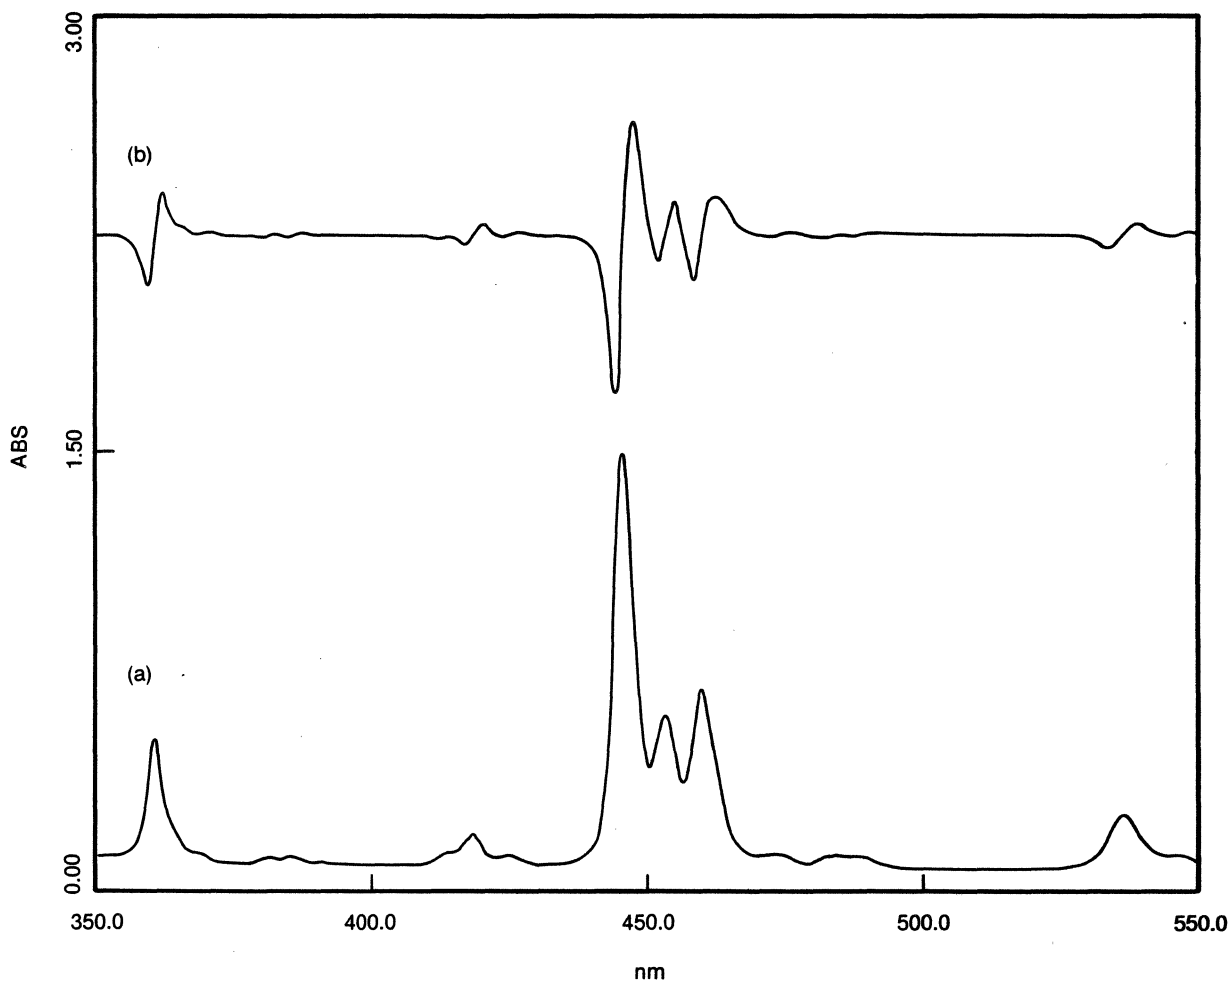
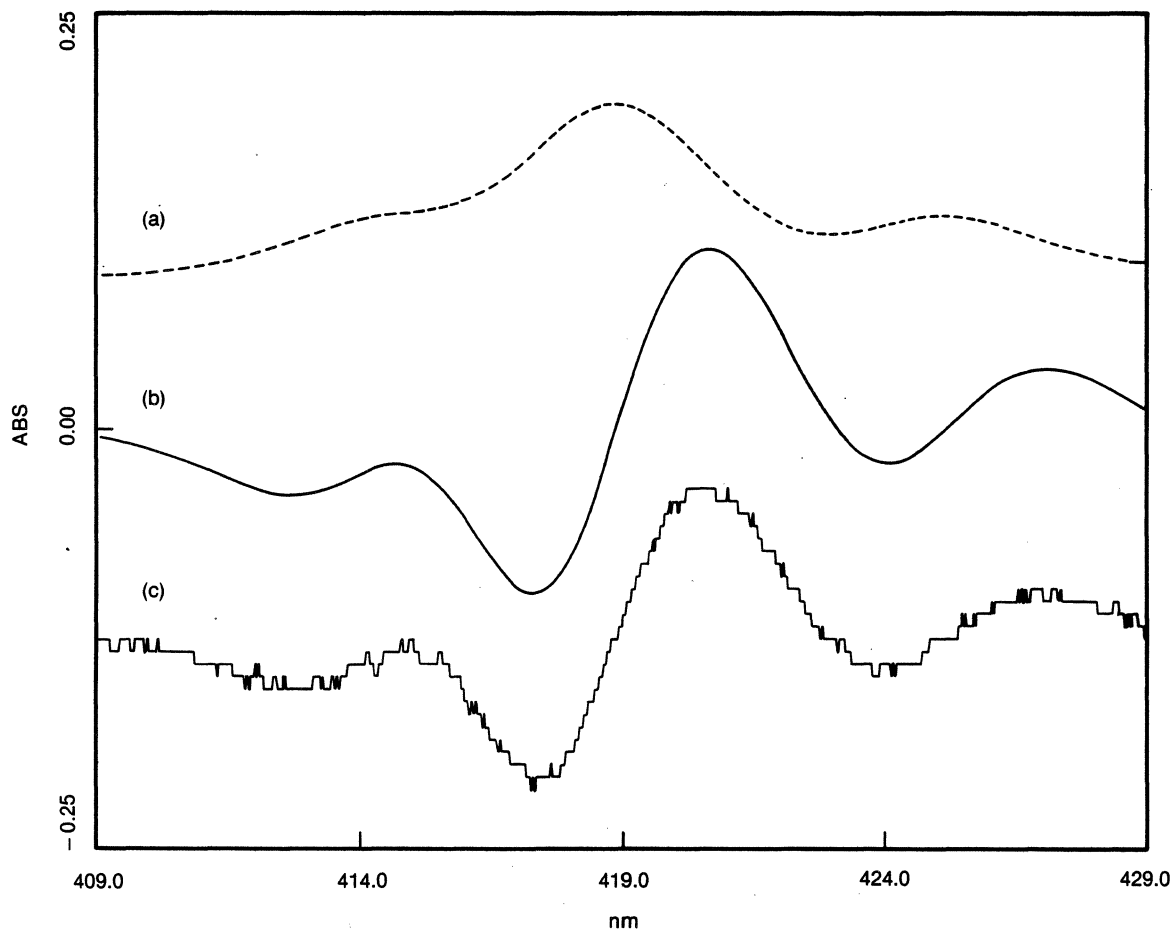
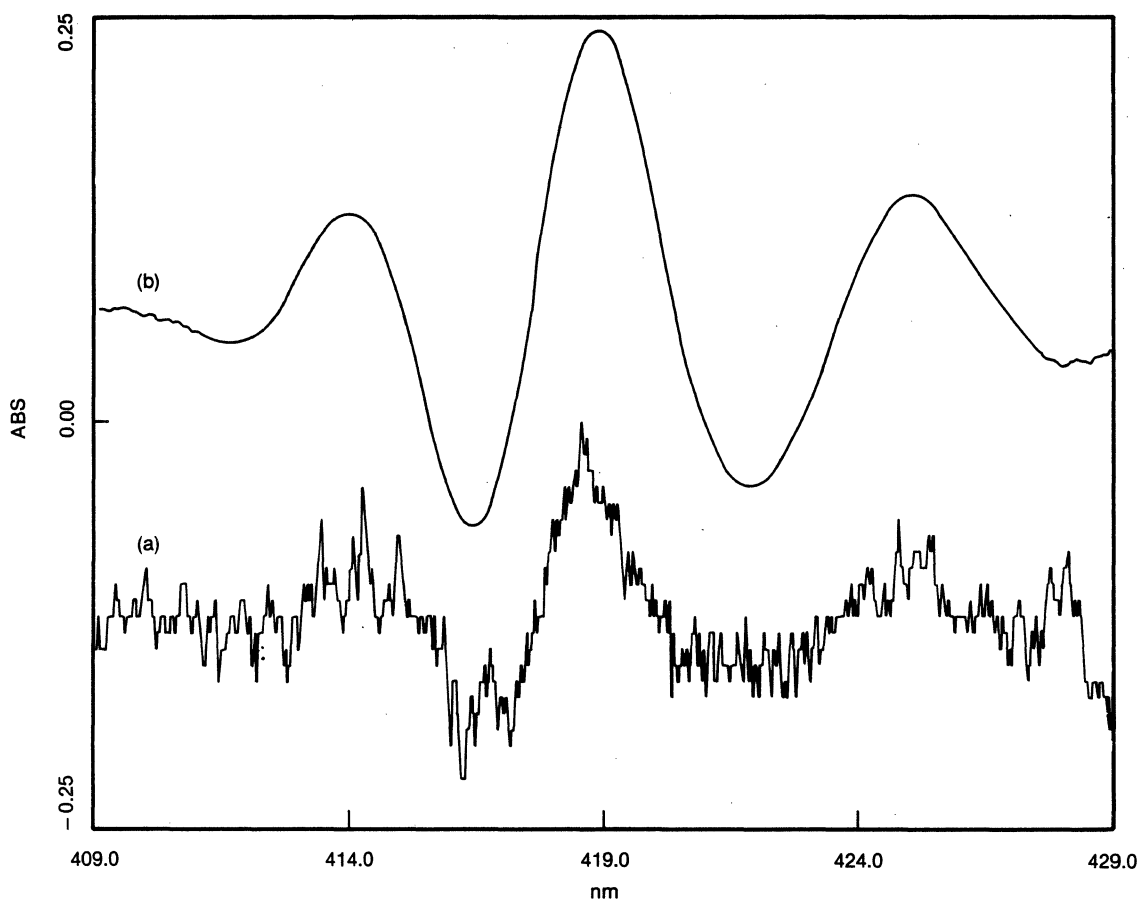

Figure 9-9. First Derivative of Holmium Oxide Spectrum
Figure 9-10. Effect of M Value on Differentiation
Figure 9-11. Fourth Derivative of Holmium Oxide Spectrum
1. Figure 9-9(a) shows an absorbance spectrum of holmium oxide glass, from 550 nm to 350 nm. The data was collected using a λ Scale value of 10, giving a data density of one point every 0.2 nm. (See Table 9-2.)
Figure 9-9(b) shows the first derivative of this spectrum, calculated with an M value of 2. The effective window size, in nanometers, is a function of both M and the Scan Increment, as shown in equation (9-2).
2. Figure 9-10(a) shows the absorbance spectrum of holmium oxide glass. Data was collected from 429 nm to 409 nm, using a λ Scale value of 1. The scan increment is one point every 0.02 nm, which is ten times greater than the density used in Figure 9-9.
To obtain the same effective window size as in Figure 9-9, an M value ten times larger was needed. Figure 9-10(b) shows the first derivative obtained with M=20, for an effective window size of 0.8 nm. The signal-to-noise ratio is comparable to that shown in Figure 9-9(b). Note that the derivative data was multiplied by 10 before plotting.
Figure 9-10(c) illustrates the effect of using an M value that is too small. An M value of 2 was used, giving an effective window size of 0.08 nm. Clearly, the signal-to-noise ratio is much worse with the smaller window. In addition, the intensity of the derivative was decreased. Note that a scaling factor of 75 was needed for the derivative data.
3. The optimum value of M also varies with the order of the derivative being calculated. The fourth derivative of the data shown in Figure 9-10(a) was calculated using an M value of 20. The result is shown in Figure 9-11(a). While M=20 gave an excellent signal-to-noise ratio for the first derivative, a larger value is needed for the fourth derivative. Figure 9-11(b) shows the result obtained for M=50. Note that there is a difference of a factor of 10 in the scaling factors used for the plot.
NOTE: (a) Fourth Derivative of the Spectrum Shown in Figure 9-10(a); multiplied by a factor of 100, M=20.